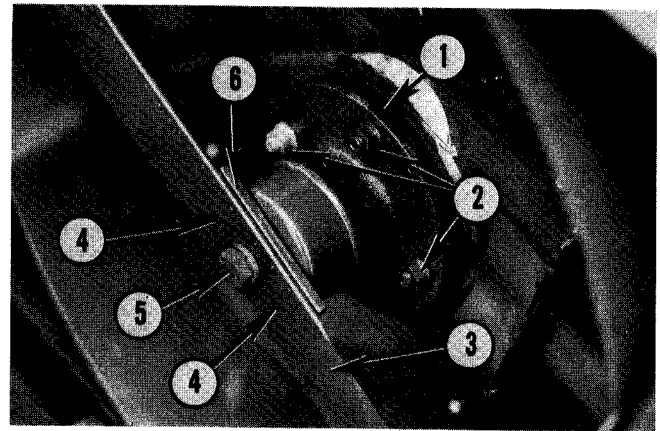

Fig. 60 — Belt Adjustment
3. Loosen outboard spindle housing nuts, No. 2, Fig. 60, one turn only.
5. Tap spindle housing, No. 1, Fig. 60, under mower base with a hammer to overcome any friction at mounting bolts.
8. Tighten spindle housing bolts, No. 2, Fig. 60, to 30-35 ft.-lbs. torque. Reinstall belt covers.
place a 2" x 4" or similar block between blade and deflector under mower. Note order components are taken off so they can be replaced same way. Blades are attached to spindle by means of blade adaptor, two shear pins and a bolt with a belleville spring washer and a lockwasher, Fig. 60.